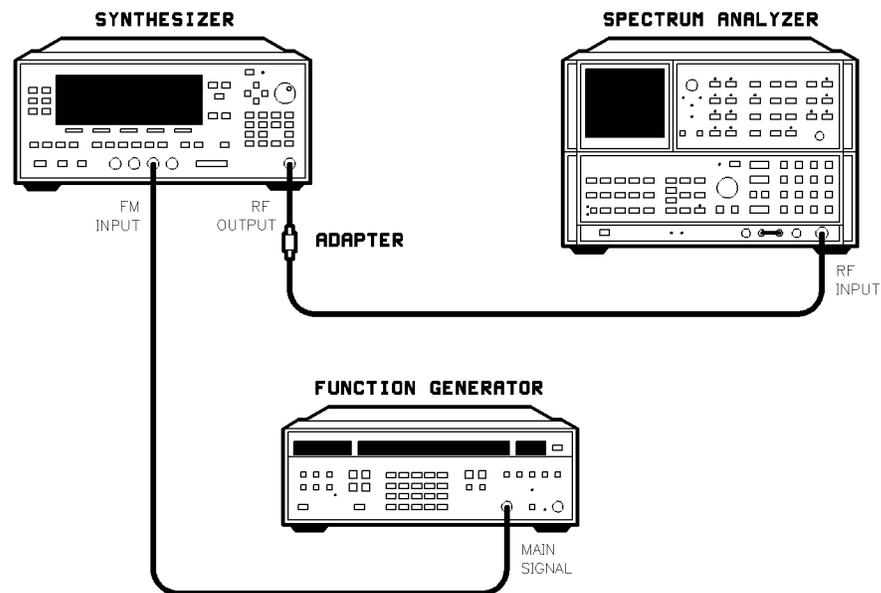

Figure 3-32. FM Gain Adjustment Setup
1. Connect the equipment as shown in Figure 3-32. Preset all instruments and let them warm up for at least one hour.